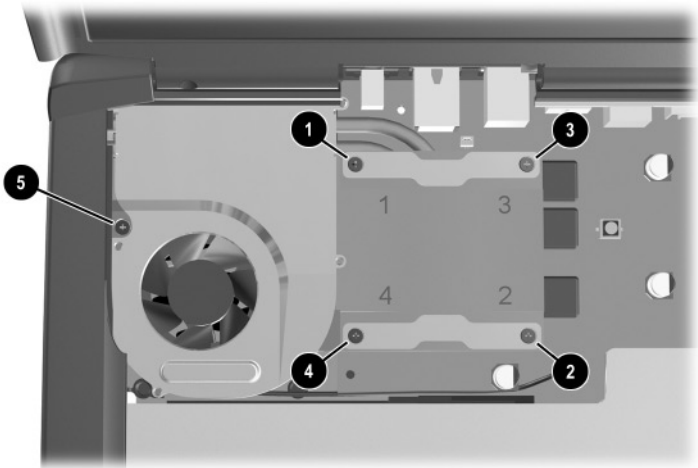

Figure 5-17. Heat Sink Screw Tightening Sequence
The heat sink screws should be loosened and tightened in the ①, ②, ③, ④ sequence stamped into the heat sink metal. The screw ⑤ next to the fan should be loosened and tightened last (Figure 5-17).